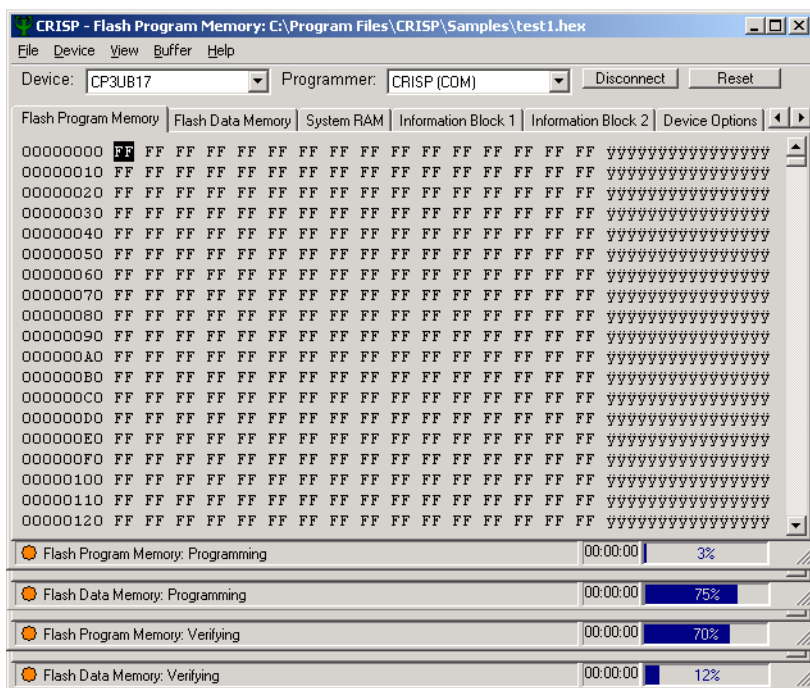

Figure 6-22. Status Bar During Auto Program Mode
5. **Monitor Programming Operation.** The current status of the programming is indicated in the status bar. Throughout the Auto Program sequence, the operation being executed and the target memory area are displayed, while the progress bar increments to display what percentage of the current operation has been completed, as shown in Figure 6-22.